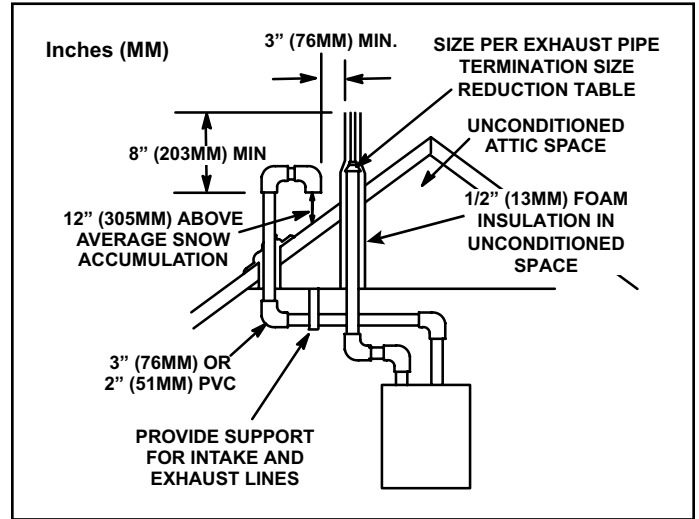

Figure 30. Direct Vent Roof Termination Kit (15F75 or 44J41)
3. On roof terminations, the intake piping should terminate straight down using two 90° elbows (Figure 30).